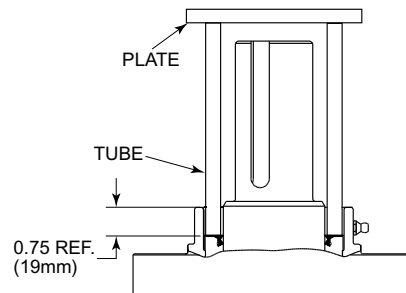

Figure 6.2.2.4 Final Installation of Inboard Seal
10. Carefully place the outboard seal over the shaft with garter spring side up. Reference **Figure 6.2.2.5**.